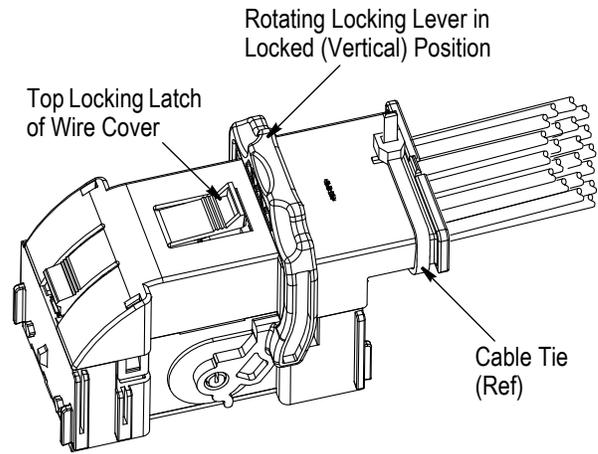
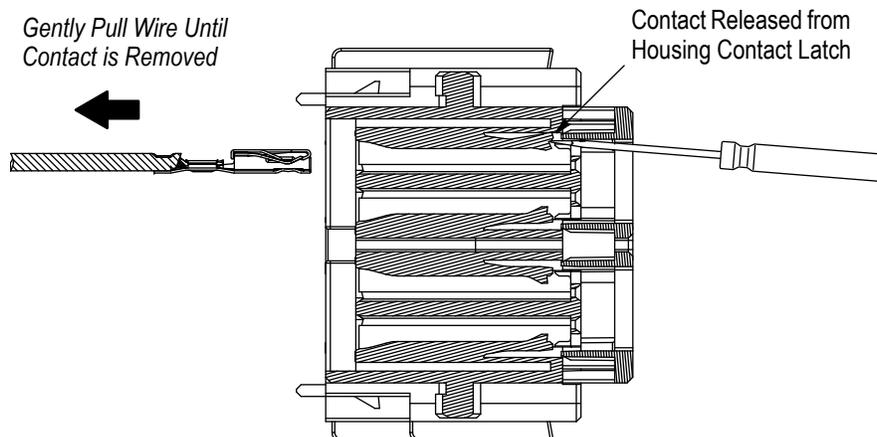

Figure 4
Figure 5
1. Push down on the front locking latch of the wire cover to release the rotating locking lever of the housing. See Figure 4, Detail A.
2. Rotate the rotating locking lever to an upright vertical position so that it locks behind the top locking latch of the wire cover. See Figure 4, Detail B.
Tape, cable ties, or wire ties may be used to provide extra stability for the wire bundle. A typical strain relief application is shown in Figure 4, Detail B.
2. With the TPA facing downward, push on the top locking latch of the wire cover to disengage the rotating locking lever (refer to Figure 4, Detail B).
3. Rotate the rotating locking lever to the pre-lock (horizontal) position until it "clicks" past the front locking latch of the wire cover (refer to Figure 4, Detail A).
1. With the TPA facing you, insert the tip of the extraction tool into the selected contact cavity and rotate the extraction tool until it disengages the contact latch from the contact. See Figure 5, Detail A.
2. Gently pull back on the wire of the contact to be removed, and pull the contact from the housing. See Figure 5, Detail B.
- Combined previous Figure 5 with Figure 4